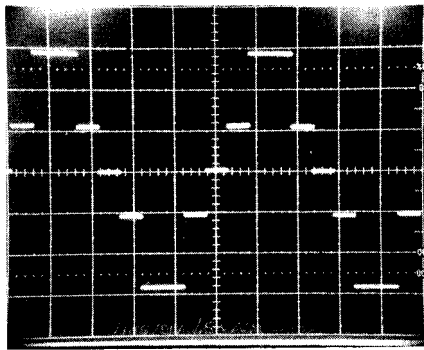

FIG. 1
2. Output. Wave shape and spectral composition of output from circuit in Fig. 1 are shown with and without filter capacitor in feedback circuit of output operational amplifier. Without filtering, waveform (a) clearly shows the discrete steps of synthesis, and spectrum (b) contains harmonics at 15 kHz and 17 kHz that are only 25 dB below the fundamental 1-kHz output. With frequency response rolled off at about 600 Hz by addition of filter capacitor to circuit, waveform (c) is smoothed, and all harmonics in spectrum (d) are down by more than 45 dB.
The secret of digital sinewave generation is shown in Fig. 1. You use a circuit called a *walking-ring* or a *Johnson* counter to ultimately generate your sinewave. You make the counter as long as you have to. The longer the counter, the more parts, but the higher the odd harmonics you end up with and the weaker they are. A second part of the secret is that you combine outputs of the counter with resistors, into either a single small-value summing resistor, or into the summing input on an operational amplifier. *But you skip one counter stage in your summing.* This makes our sinewave waveform take twice as long automatically on the peaks and valleys. As we'll shortly see, the waveforms look rather strange and choppy before
The sequence length usually equals twice the number of stages in use. If we look at the five outputs A through E in Fig. 1, we see that we get a group of five phase-shifted squarewaves. We now sum four of these five waveforms with just the right "magic" resistor values, and we get a composite waveform that is a fundamental sinewave along with low-amplitude ninth, eleventh, and a few very small and very high-order remaining odd harmonics. For many uses you can use this sinewave pretty much as is, but it's a simple matter of filtering to get a sinewave of good purity.
Don Lancaster's article entitled "Create Sinewaves Using Digital IC's" that appeared in the November, 1976, issue was both interesting and useful. Using a 4018 IC, we built the five-stage synthesizer shown in Fig. 6 of the article. With 1% summing resistors, the output waveform shown in Fig. 1 was obtained. The scope was set to 1 ms-per-division and 0.5 volts-per-division. The harmonic content of the output signal was analyzed and is listed in Table 1.
In the waveform of Fig. 1, the distance between the bottom level and the first step is larger than the distance between the first step and the second step. A better sinewave approximation would have a larger distance between the 1st and 2nd steps, than between the bottom level and the first step. If the 22.1K and 35.7K resistors are switched, the output waveform shown in Fig. 2 is obtained. The scope settings are the same as before. The harmonic content of this output signal was analyzed and is listed in Table 2.